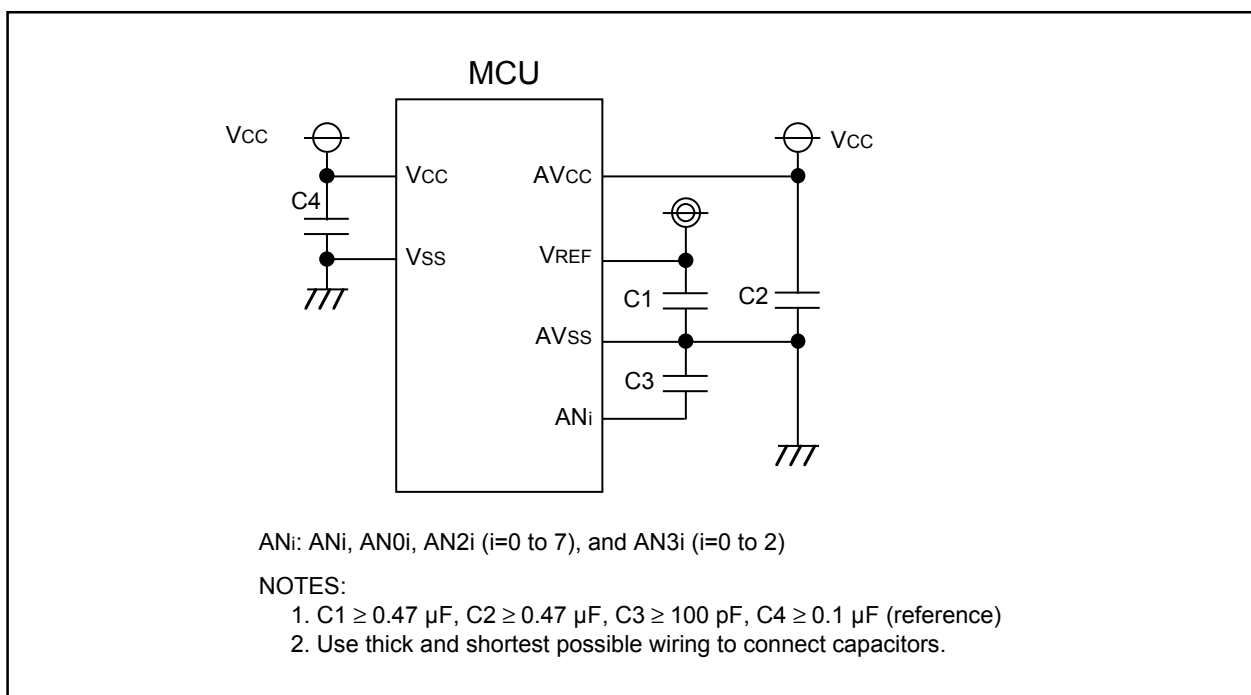

Figure 22.4 Use of capacitors to reduce noise
3. To prevent noise-induced device malfunction or latchup, as well as to reduce conversion errors, insert capacitors between the AVCC, VREF, and analog input pins (AN_i, AN0_i, AN2_i(i=0 to 7), and AN3_i(i=0 to 2)) each and the AVSS pin. Similarly, insert a capacitor between the VCC1 pin and the VSS pin. **Figure 22.4** is an example connection of each pin.